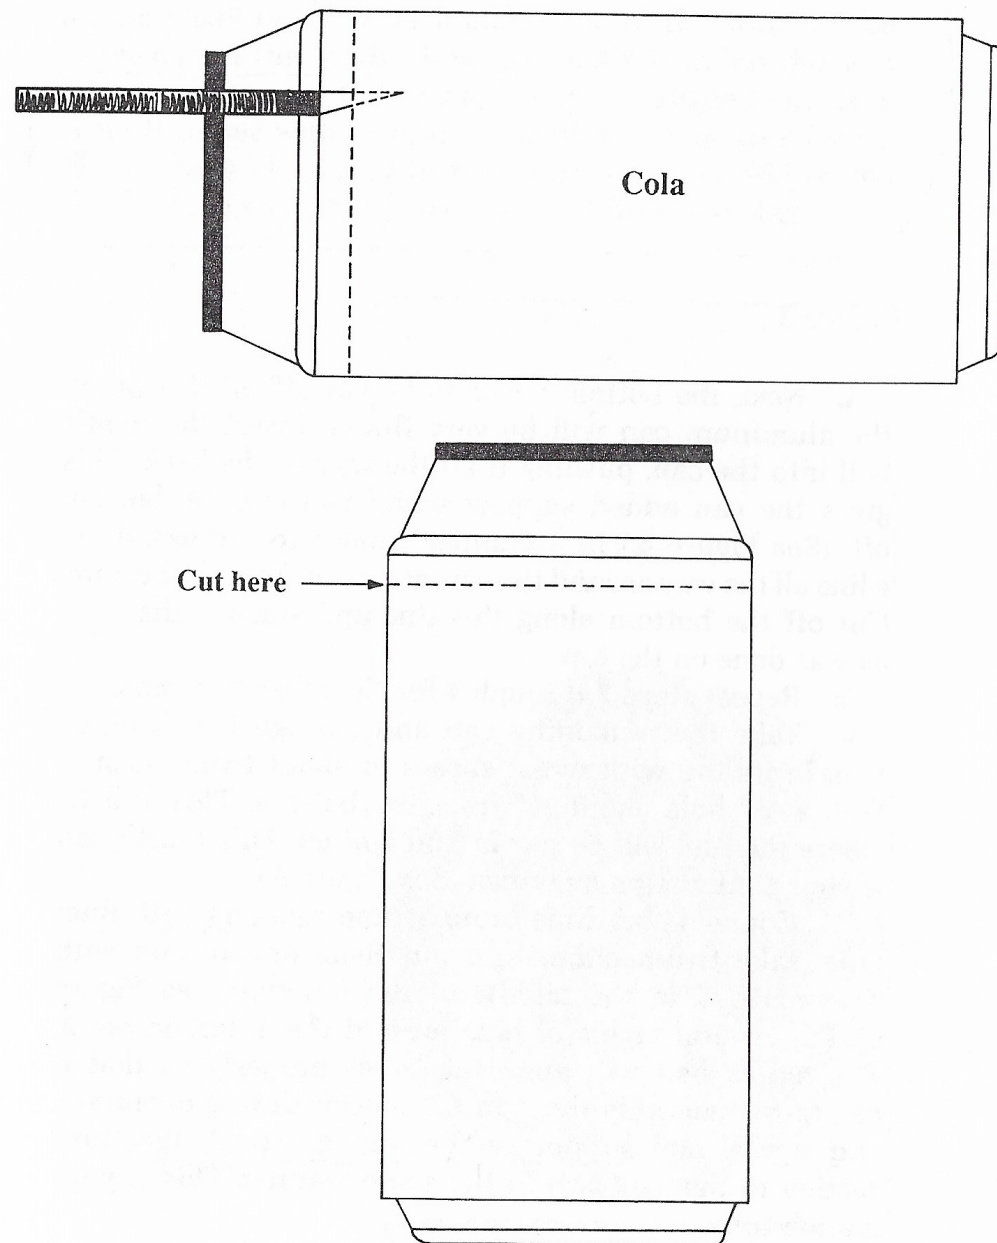

Figure 2
2. Cut off the tops of each of the three remaining cans. Draw a line all the way around the top of one can just below the point where it starts to bevel off. This is where the top will be cut off. Cut off the top with an X-acto blade or any other sharp, thin-bladed instrument. Stick the blade into the can on the line and cut all the way around until the top comes off. (See Figure 2.)